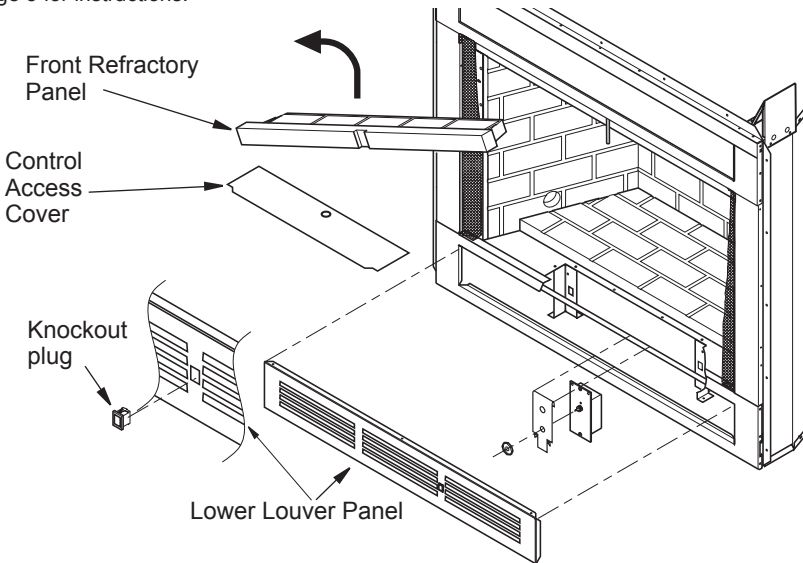

Figure 1: Accessing Blower Compartment (Controls Not Shown for Clarity) B-vent, Wood and Vent-Free Models
The BK blower can be installed in wood burning, B-vent and vent-free model fireplaces. Both the BK and BKT blowers can be installed in direct-vent model fireplaces. Blowers are installed by accessing the blower compartment through the lower louver panel or, on some models, through the control access cover under the front refractory panel (see Figure 1). The lower front louver panel can be removed easily, see *removing louver panel*, page 3 for instructions.
For models other than direct-vent, remove panel or stamped face louver by snapping out the front with a flat blade screwdriver (see Figure 1, page 2). Use caution not to scratch any surfaces. These panels can also be removed by inserting fingertips between slots and gently pulling out. DO NOT FORCE. The panels are actually held in place by means of a retention dimple embossed on the edge of the panel. To reinstall, place louver into cavity and push gently.
- Remove knockout plug from louver panel by depressing top and bottom retaining clips (see figure 1, page 2).
- Remove knockout plug from louver panel by depressing top and bottom retaining clips (see Figure 1, page 2).